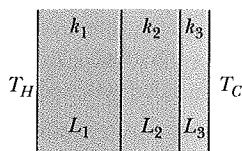

Fig. 18-45
••60  Figure 18-45 shows the cross section of a wall made of three layers. The layer thicknesses are L_1 , $L_2 = 0.700L_1$, and $L_3 = 0.350L_1$. The thermal conductivities are $k_1, k_2 = 0.900k_1$, and $k_3 = 0.800k_1$. The temperatures at the left and right sides of the wall are $T_H = 30.0^\circ\text{C}$ and $T_C = -15.0^\circ\text{C}$, respectively. Thermal conduction is steady. (a) What is the temperature difference ΔT_2 across layer 2 (between the left and right sides of the layer)? If k_2 were, instead, equal to $1.1k_1$, (b) would the rate at which energy is conducted through the wall be greater than, less than, or the same as previously, and (c) what would be the value of ΔT_2 ?